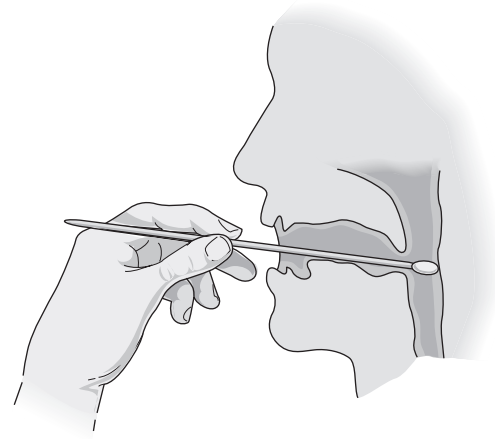

FIG. 13.1. Throat culture procedure.
- a. Take a sterile cotton swab and touch the back of the throat of one person at your table or workstation (Fig. 13.1).